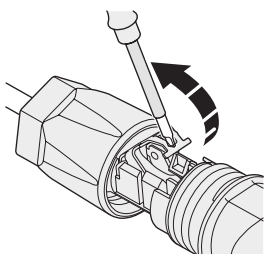

Fig. 48. Opening the retaining bracket.
3. Use a flat head screwdriver to open the retaining bracket on the connector, as shown in Fig. 48.